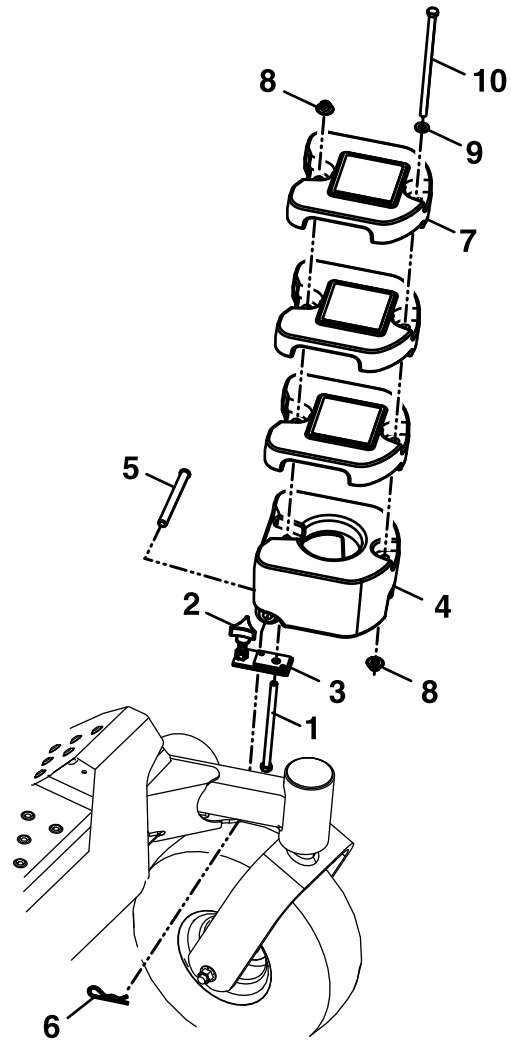

Figure 27
- A. Remove the locknut (3/8 inch) from the bottom of the 20.4 kg (45 lb) weight mounted to the caster arm (Figure 27).
- B. Remove the bolt (3/8 x 8 inches) and washer (Figure 27).
- C. Remove the locknut (3/8 inch) from the top 9.1 kg (20 lb) caster weight (Figure 27).